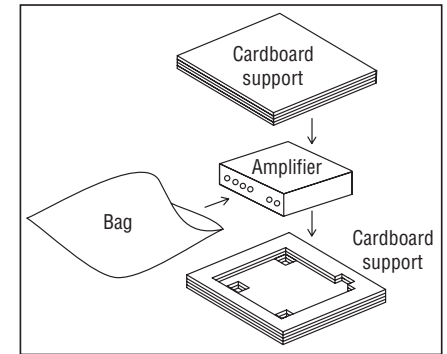

Figure 9.1 Packing Assembly
3. When shipping your Crown product, it is important that it has adequate protection. We recommend you use the original pack material when returning the product for repair (Figure 9.1). If you do not have the original box, please call Crown at 800.342.6939 or 574.294.8210 and order new pack material. (Do not ship your unit in a wood or metal cabinet.)